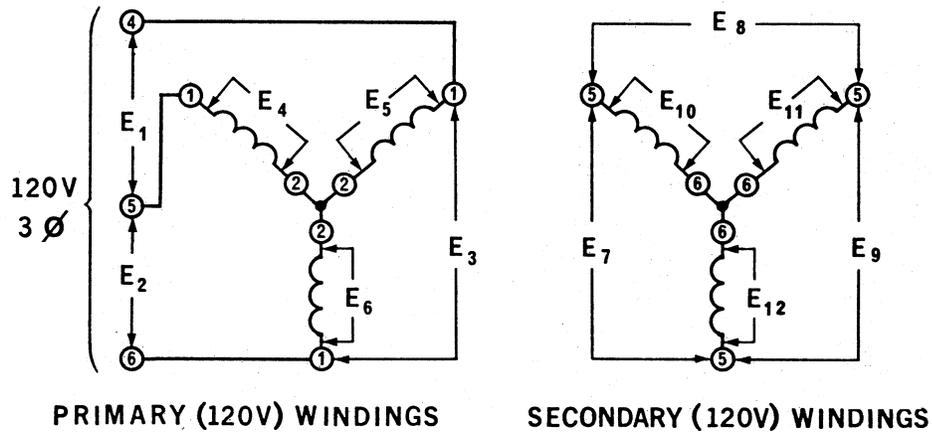

Figure 48-5.
- 1. a. The circuit shown in Figure 48-5 has three transformers connected in a \_\_\_\_\_ configuration.